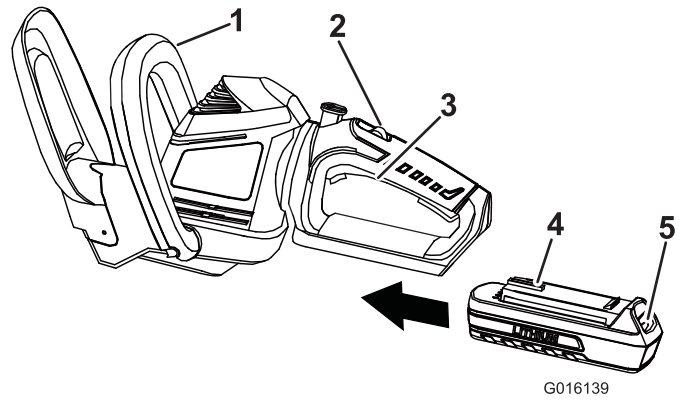

Figure 3
2. Align the tongue of the battery pack with the cavity in the handle housing (Figure 3).
1. Release the trigger switch (Figure 3).